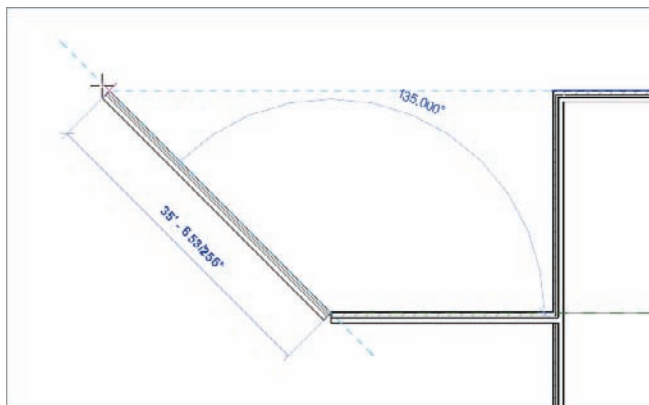

FIGURE 2.8 Allow Revit to guide you in the placement of walls.
13. After you move your cursor far enough in this direction, Revit picks up the north finish face of the building drawn in the previous procedure. After these two alignment lines appear, pick the point on the screen, as shown in Figure 2.8.